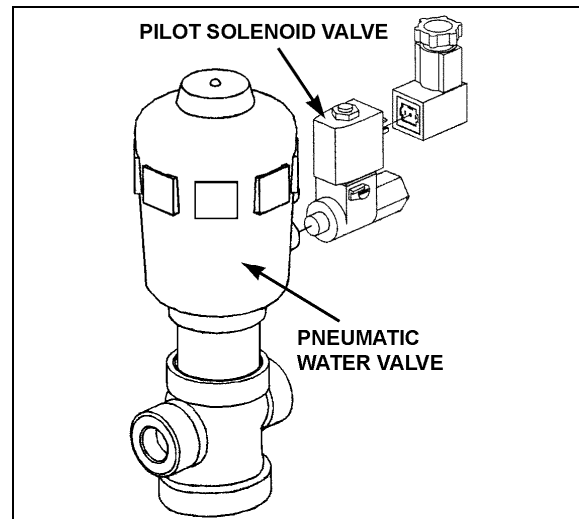

FIGURE 47: CENTRAL HOT WATER PNEUMATIC VALVE ASSEMBLY
2. The water valve need not be removed from the line. Unscrew nipple, the actuator casing, tube, spindle and closure member can be removed (Fig. 47).